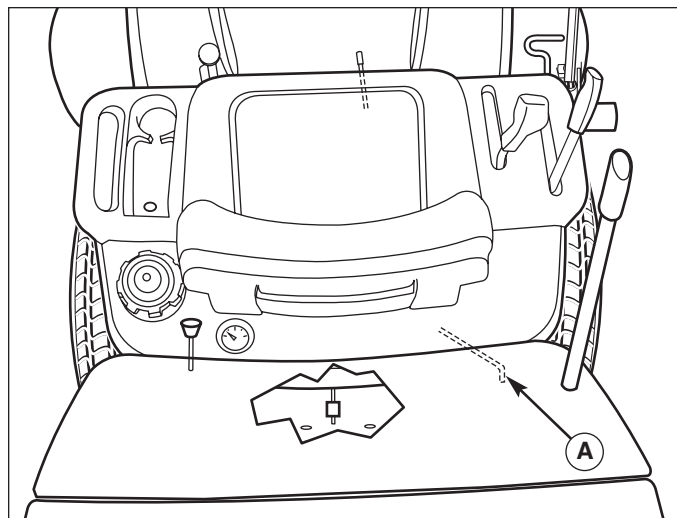

Figure 36. Transmission Release Lever
4. While holding the forward ground speed pedal down, engage and disengage the transmission release valve lever (A, Figure 36) several times.
6. While holding the reverse ground speed pedal down, engage and disengage the transmission release valve lever (A) several times.